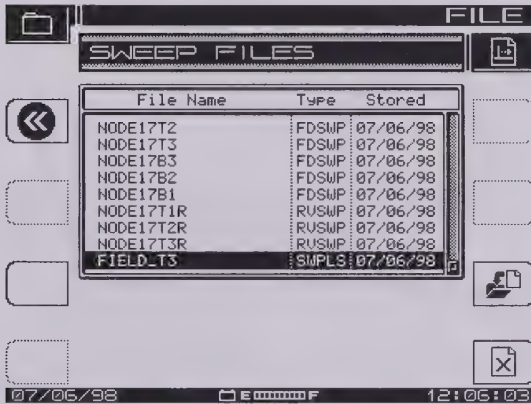

Fig. 11-1 The FILE Screen (for Sweep)
To store any one of these types of files, switch to File mode directly from the SCAN, SPECTRUM, TILT, SWEEP, or PATHTRAK measurement menu. Fig. 11-1 shows the FILE screen displayed from any of these modes.
1. Press the **Function** and **2 def** keys while taking the measurement. The screen displays the FILE menu for that test type (see Fig. 11-1). The instrument displays a list of all files that are of the same type as the current measurement.